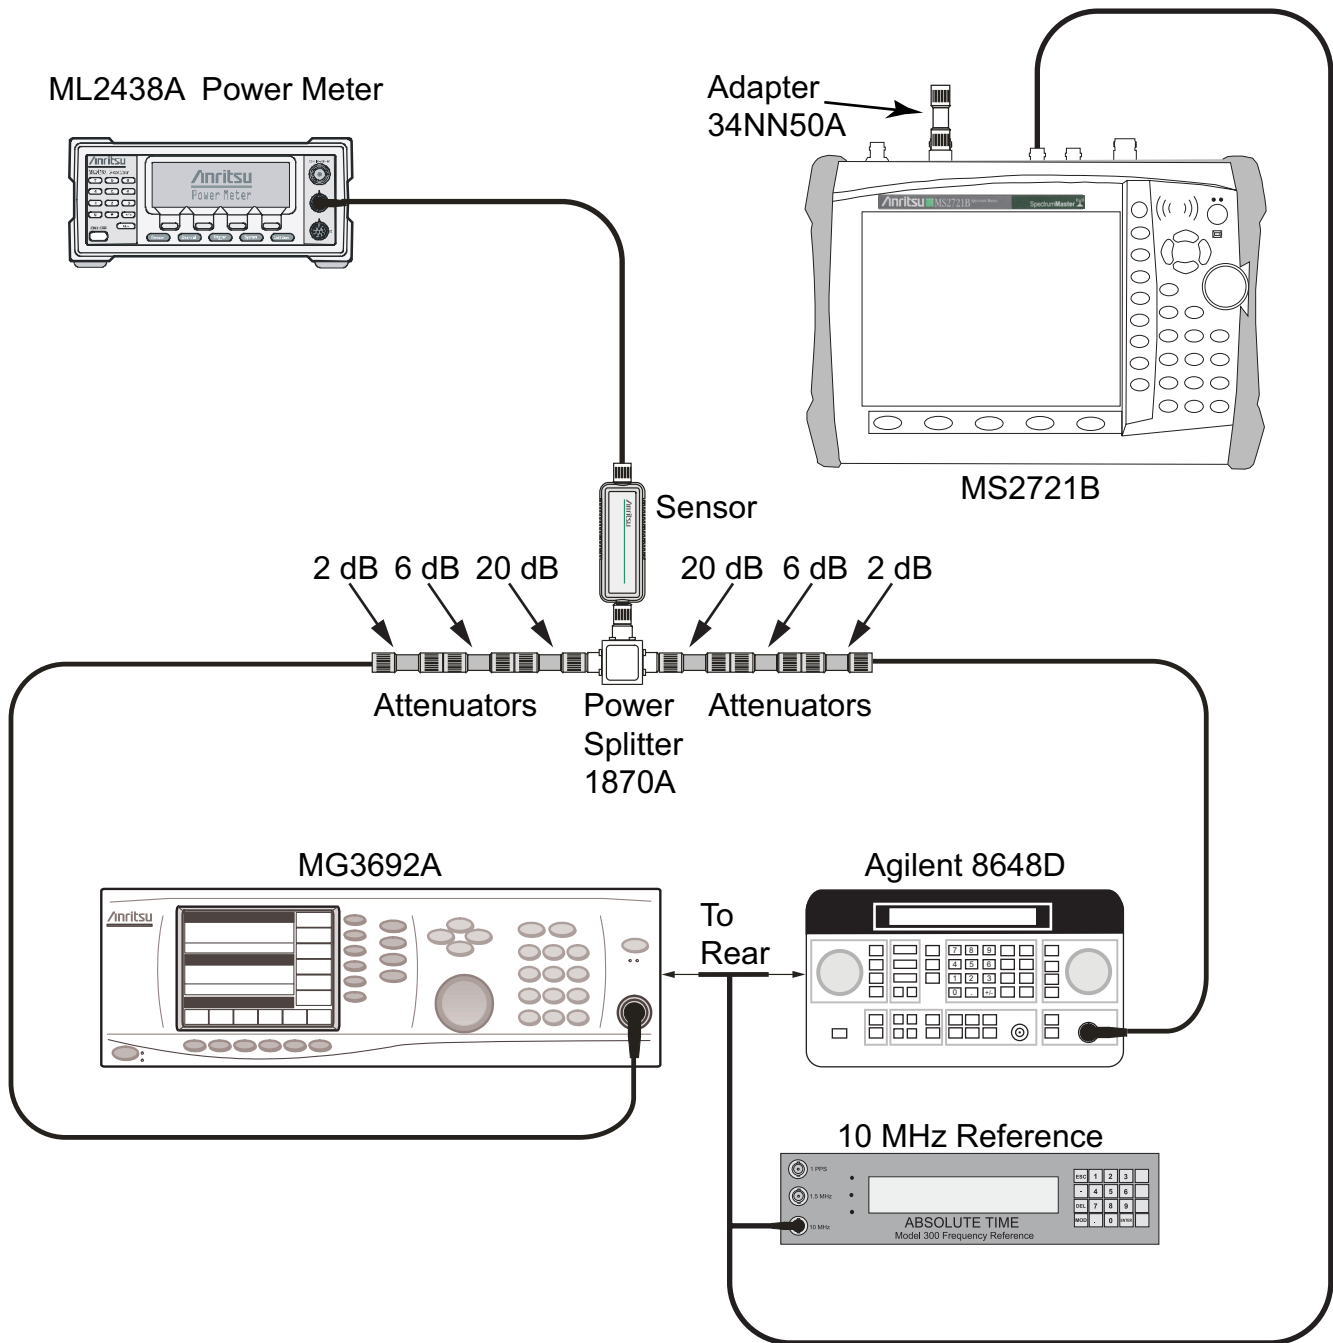

Figure 2-5. Third Order Intercept (TOI) Verification Characterization Setup
2. Connect the equipment as shown in Figure 2-5. The splitter will be used as an RF combiner (the normal RF output connections will become input connections, and the normal input connection will become the RF output connection).
5. Connect the power sensor to the splitter "output" and adjust the power of the MG3692x so that -20 dBm appears at the splitter "output" (approximately $+16 \text{ dBm}$ on the MG3692x), as shown in Figure 2-5.